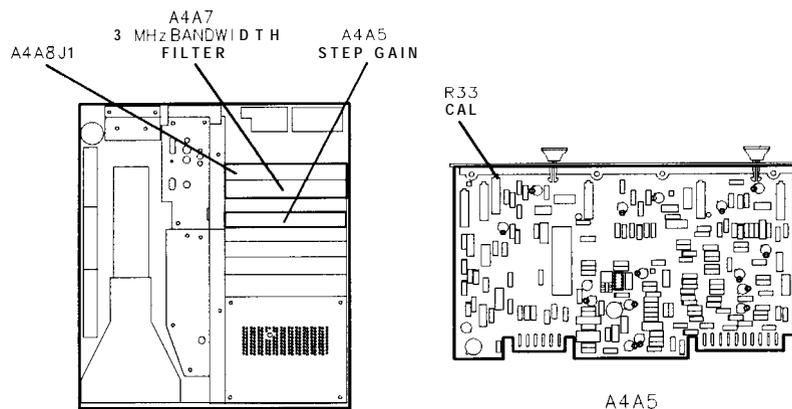

Figure 3-47. Location of IF Gain Adjustment
5. Disconnect cable 97 (white/violet) from A4A8J1 and connect cable to power meter/power sensor. Refer to Figure 3-47 for location of cable 97 and A4A8J1.
9. Note MARKER amplitude in mV and adjust A45A5R33 CAL to 70.7 mV (top CRT graticule line). See Figure 3-47 for location of adjustment.